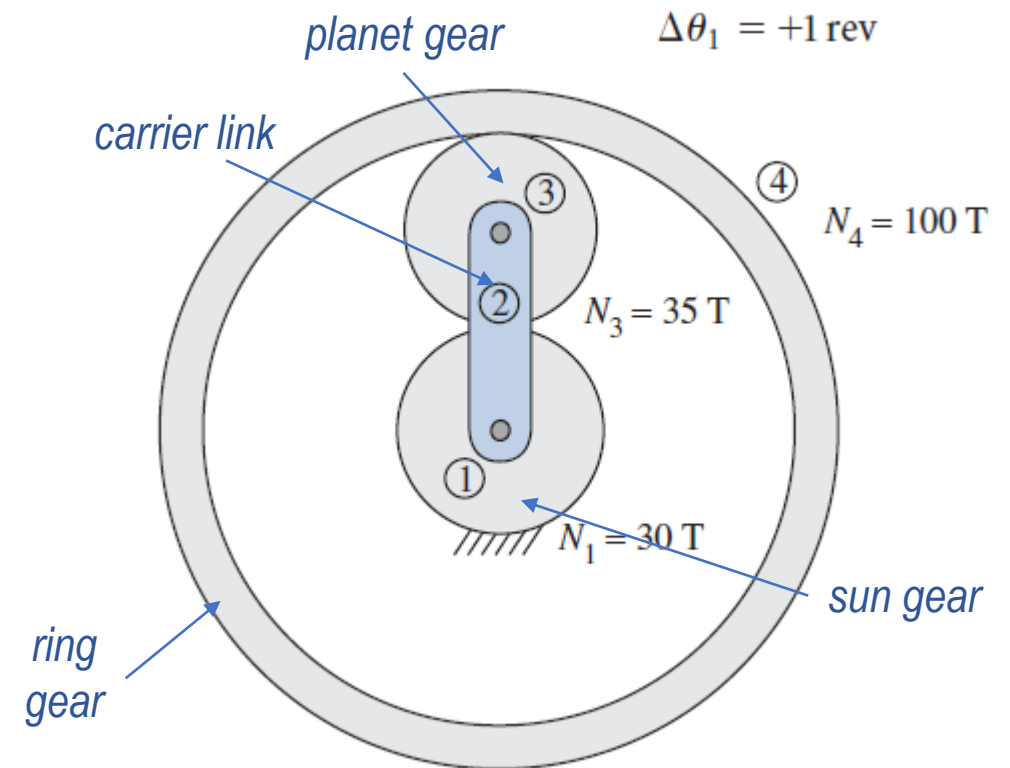

Figure 8-18 Planetary Gear Train for Problem 8-2.
- *Example 8-2.* A planetary gear train is illustrated in Figure 8-18. The carrier (link 2) serves as the input to the train. The sun (gear 1) is the fixed gear and has 30 teeth. The planet gear (gear 3) has 35 teeth. The ring gear serves as the output from the train and has 100 teeth.